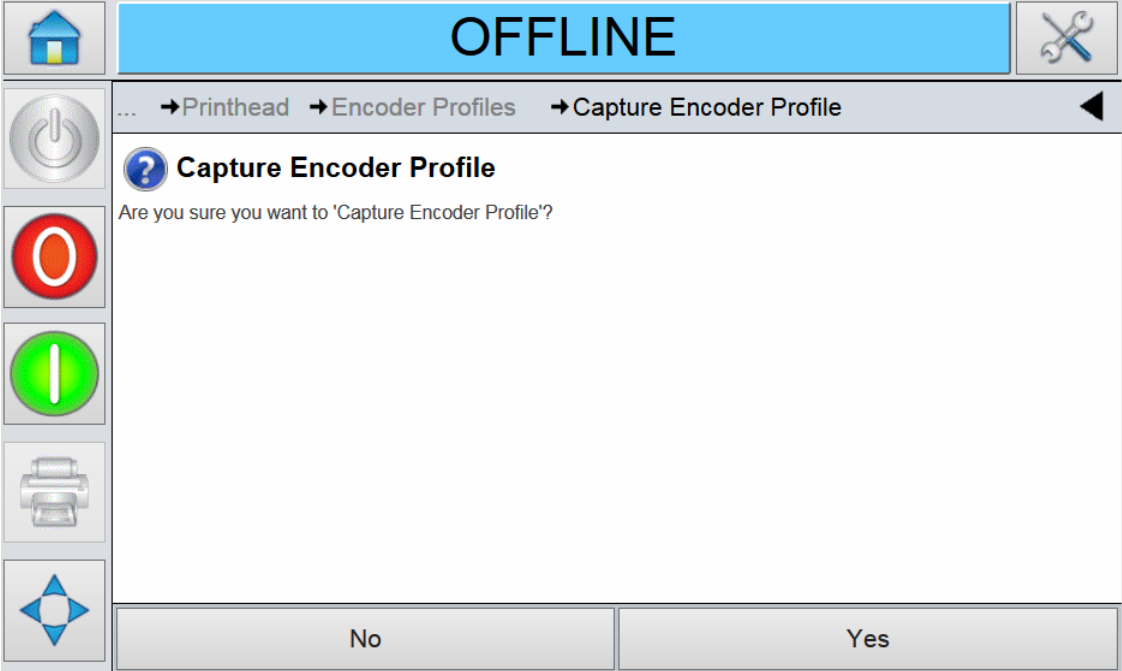

Figure 5-17: Capture Encoder Profiles Screen
3. Once the options have been configured, start the capture process by touching the Capture Encoder Profile button. The Capture Encoder Profile screen appears (Figure 5-17).